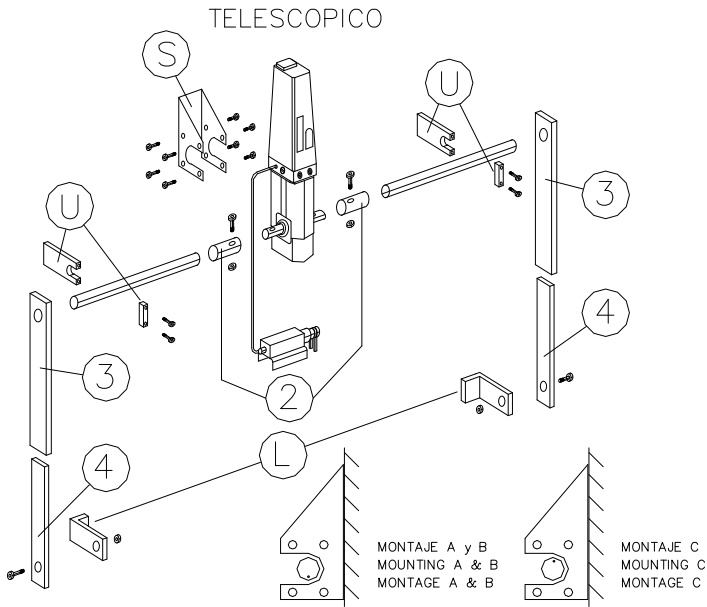

FIG. 6
Installation accessories Figure 6.
1. Fix motor support "S" shown in figure 6 on the door in the position shown in figures 2,3 or 4, depending on the mounting type.
3. Insert part "2" of figure 6 10mm into a transmission bar O/D 28mm and weld. This bar is not supplied with the mounting kit. (It is recommended that this bar is a pressure tube with wall thickness 4 or 5mm).
4. Position part "U" of figure 6 as shown in figures 2,3 or 4 such that the transmission bars are completely in line with the axis of rotation of the operator.
5. Fix supports "L" of figure 6 as shown in figures 2,3 or 4, depending on the mounting type.
6. Mount parts "4" of figure 6 to support "L" of figure 6 and insert parts "4" with part "3" of figure 6.
7. Insert the transmission bars welded to part "2" in the hole of part "3" figure 6. Mount the transmission bars in the operator and fix them with parts "U".
8. The point marked on the rotary shaft on the right-hand side of the operator 1RM-2**37 must be as shown in figure 6, depending on the mounting type. Before welding parts "3" to the transmission bars the operator should be rotated approximately 5 degrees away from the end position. With the door completely closed, proceed to weld.
10. Open the upper cover (marked "1" in figure 6) which gives access to the connection terminals and connect as shown in figure 8.